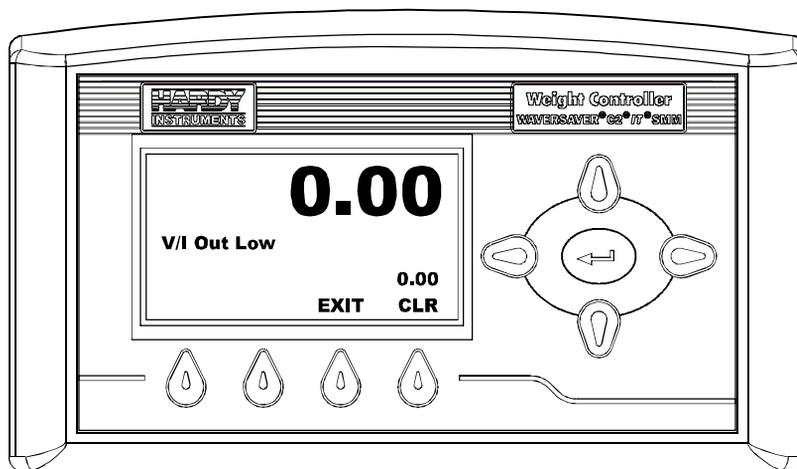

FIG. 149 V/I OUT LOW MENU/SETTING LOW OUTPUT VOLTAGE
Step 1. Press the Enter button. The V/I Out Low Menu appears. (See Fig. 149)